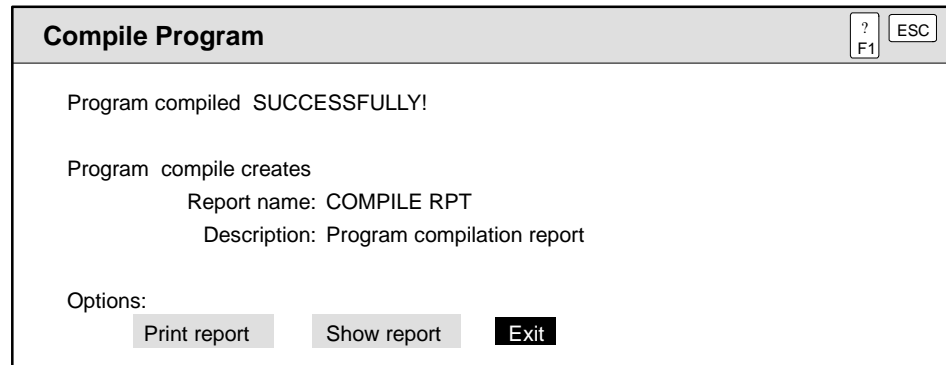

Figure 6-14 Printing or Showing the Compile Report
The dialog window in Figure 6-14 appears at the end of the compile operation and allows you to show or print the compilation report, or to exit to the hierarchy.
1. Use the arrow keys to move the text cursor to the appropriate option (see Figure 6-14).